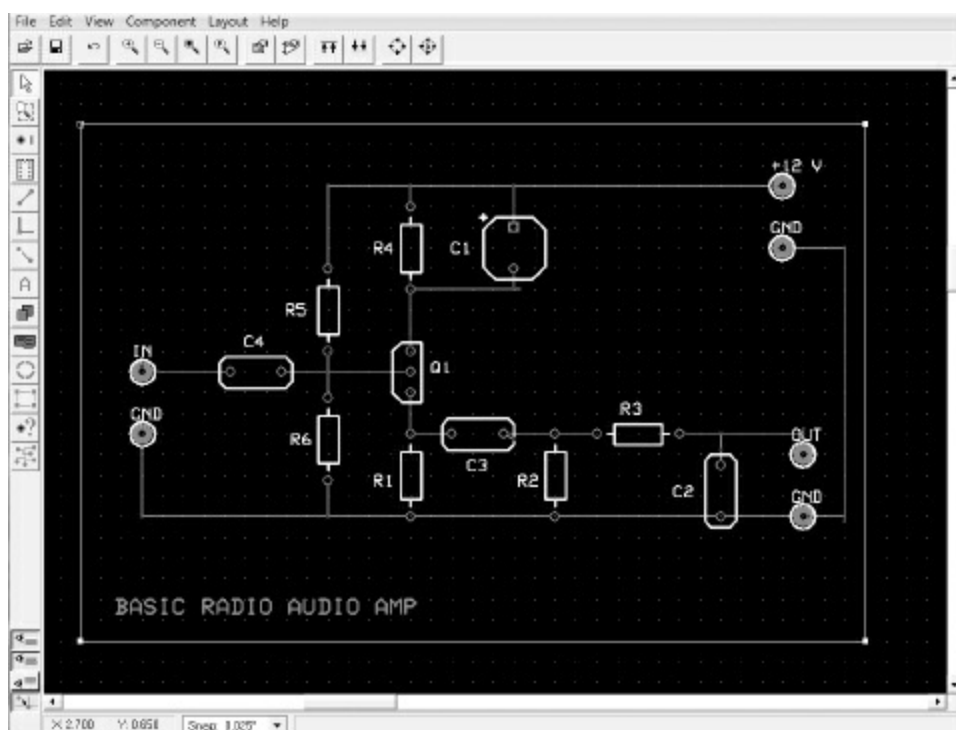
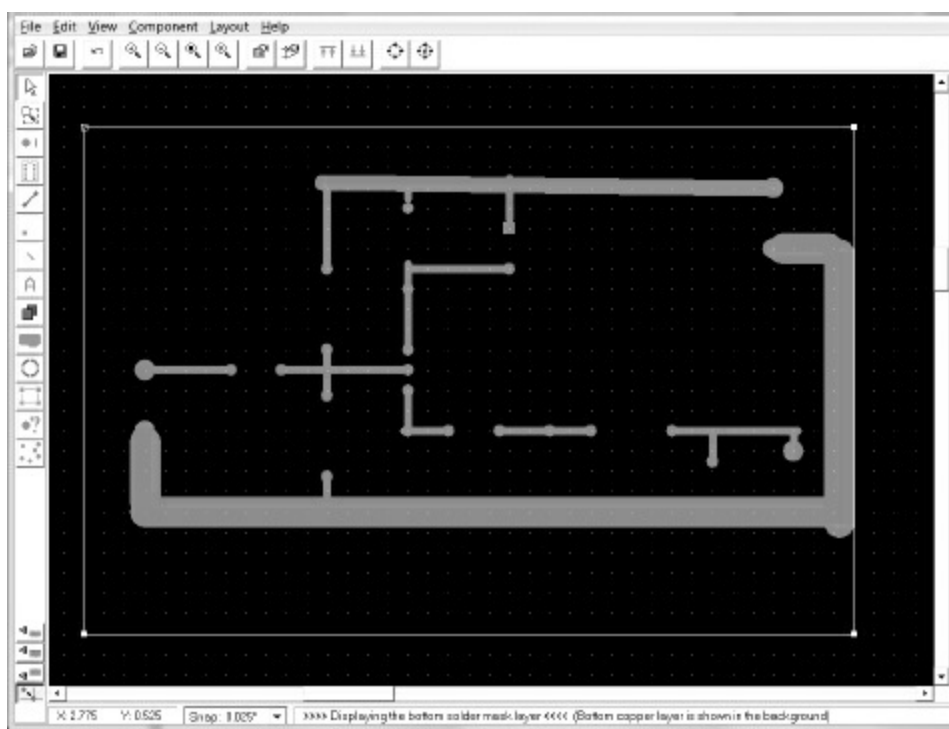
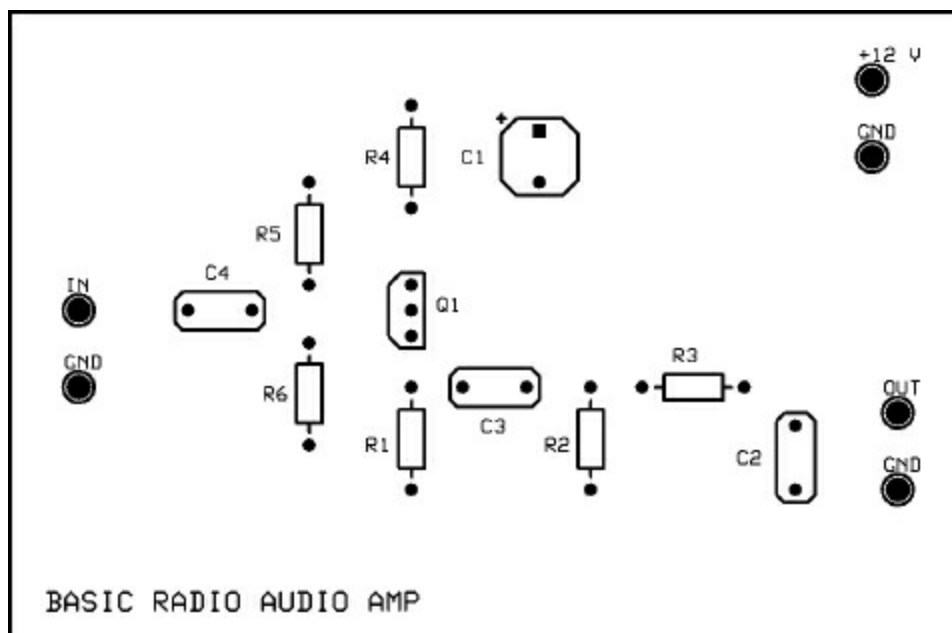

Figure 8.19 — A PC board layout diagram generated using *ExpressPCB* software.
Figure 8.20 — A shot of the solder mask I generated to go with the layout in Figure 8.19.
Figure 8.21 — The silkscreen output on the board's component side.
*ExpressPCB* and its companion *ExpressSCH* are programs that are available without charge ([expresspcb.com](http://expresspcb.com)) and actually go somewhat beyond computer-aided design into the realm of computer-aided manufacturing. *ExpressSCH* allows you to generate a schematic of a circuit that you would like to turn into a printed circuit board (PCB). *ExpressPCB* then allows you to manually enter your circuit components into a PCB layout (see **Figure 8.19** for the component side), then draw the solder mask on the underside (**Figure 8.20**). **Figure 8.21** shows the silkscreen image.